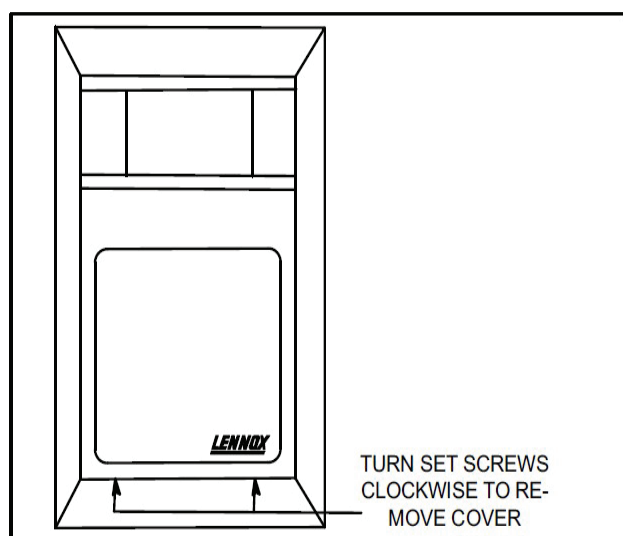

Figure 3. Wall-Mount Humidity Sensor (A91)
2. Loosen screws and remove sensor cover (see Figure 3).